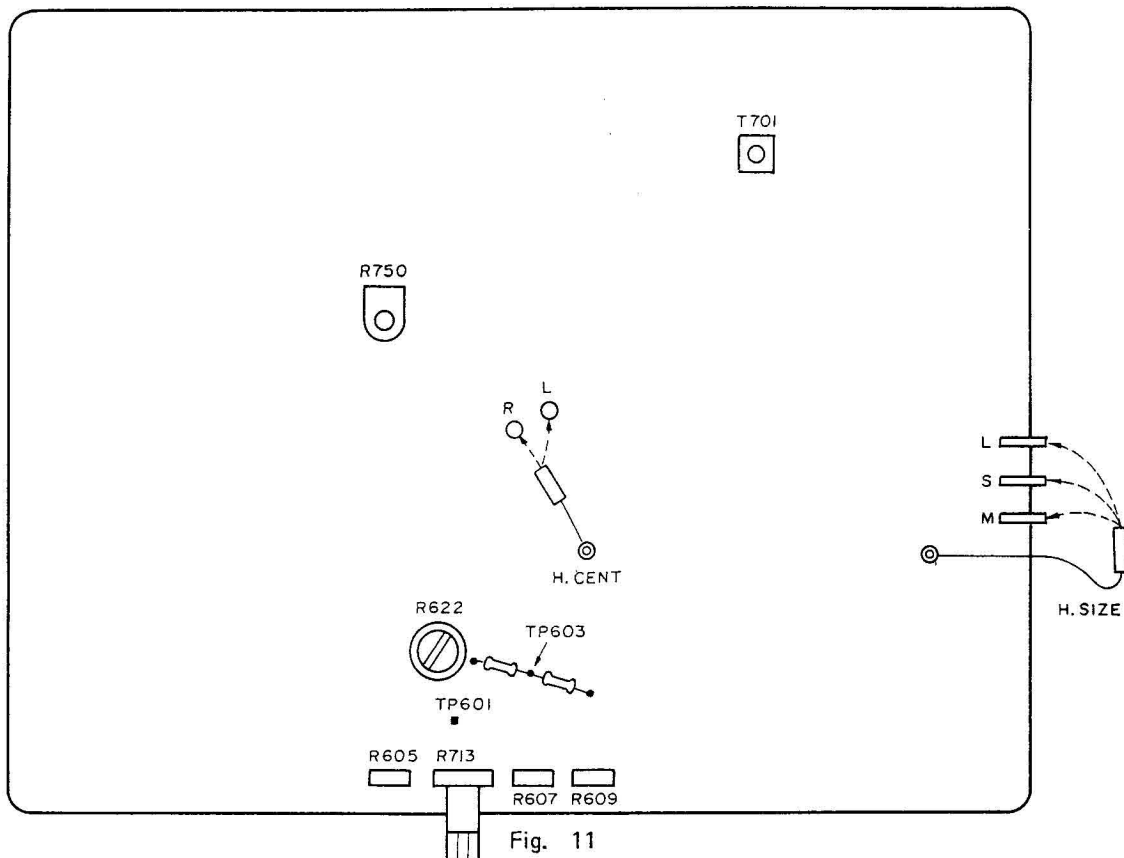

Fig. 11
6. ALIGNMENT WITH BLACK AND WHITE PICTURE. . . Fig. 11.